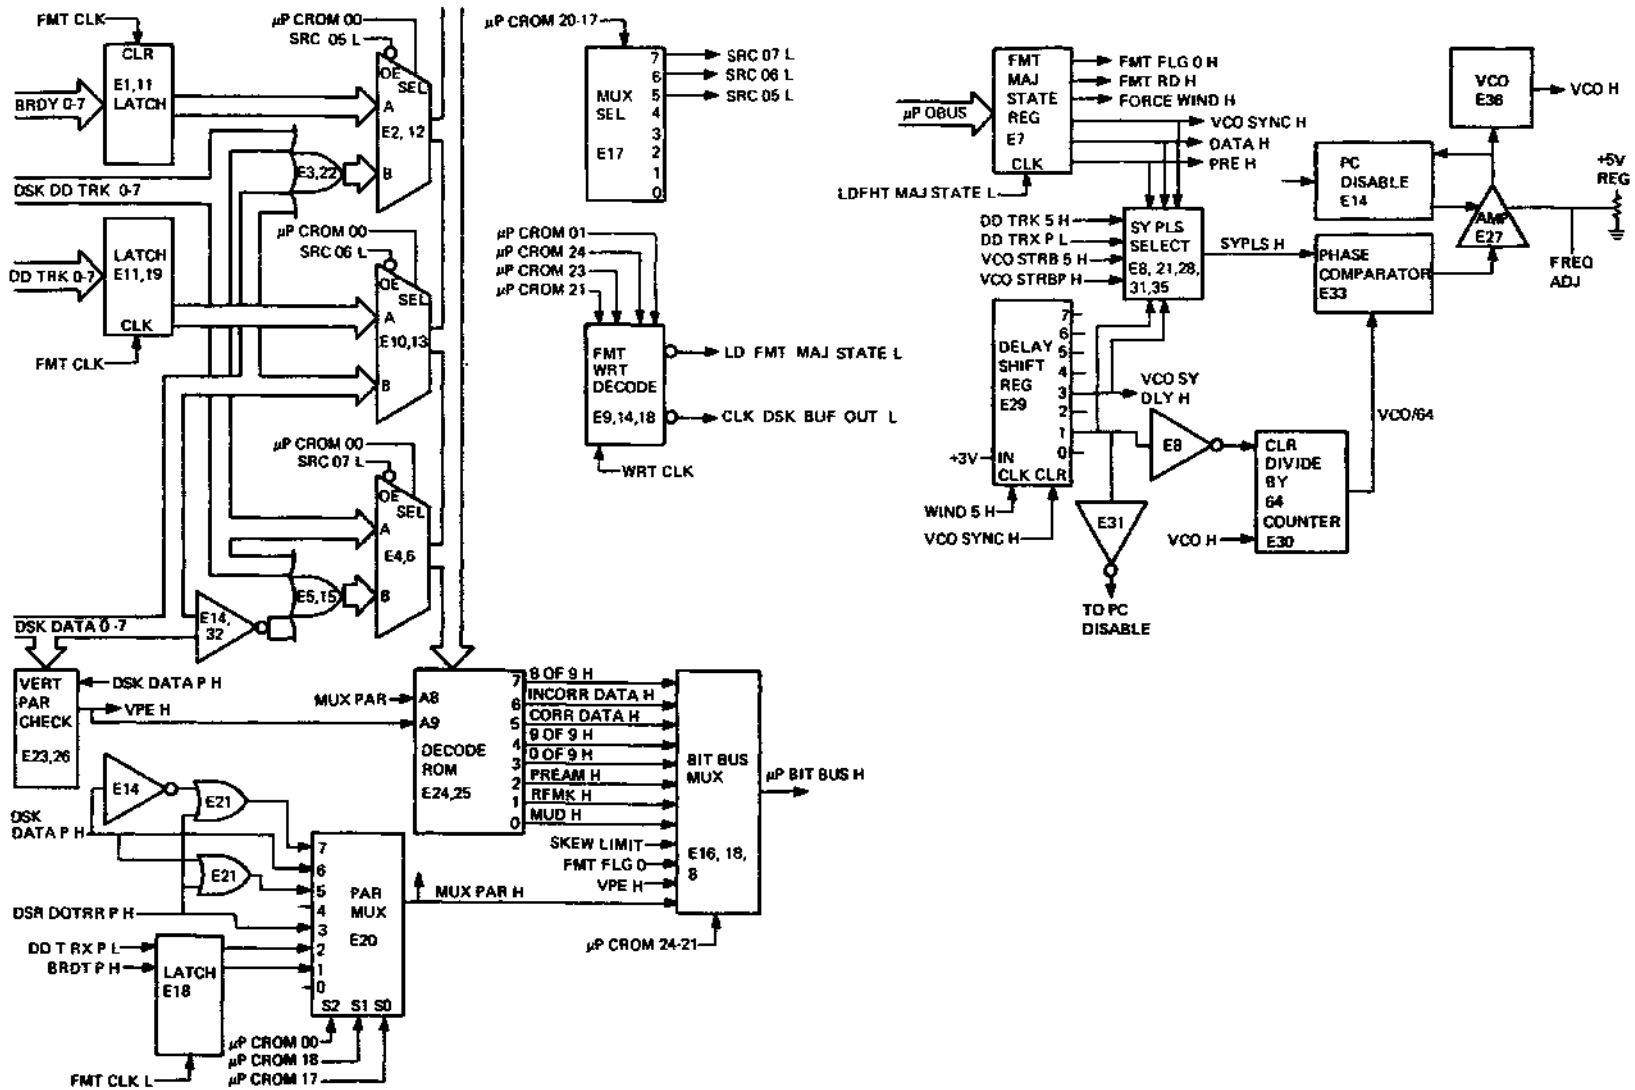

Figure 6-30 VCO Operation
6.6.2.1 VCO Operation – The VCO is part of a phase locked loop (PLL) that synchronizes the data detection circuits to the incoming data. The frequency of the VCO will increase or decrease to follow changes in the frequency of data coming from the tape due to minor variations in tape speed or bit density. For the following description of VCO operation, refer to Figure 6-30.
6.6.2.3 Formatter Multiplexers and ROM Look-Up Table (Figure 6-30) – The formatter multiplexers (on M8922) route data from the M8924 boards to the μ P IBUS and the ROM look-up table (decode ROM) under μ P control. The decode ROM enables the μ P to make single instruction decisions about the data from the M8924 boards. This saves a great deal of time for the μ P.